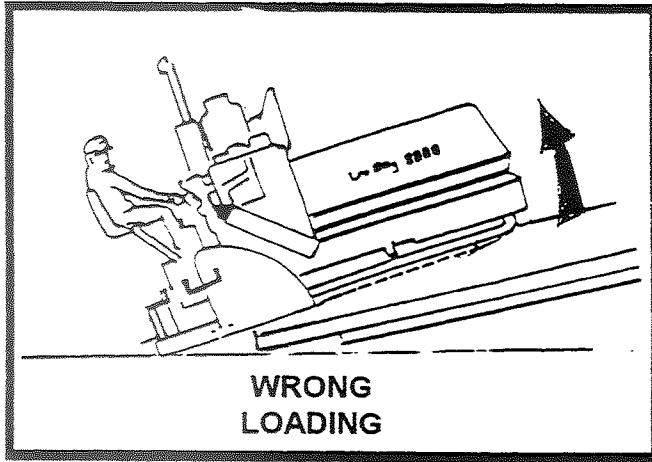

FIGURE 16
3. With the steering control levers slowly guide the paver up the ramp. If the paver is loaded hopper first, the weight of the operator on the walkway will tend to tip the paver onto the screed. See figure 16.